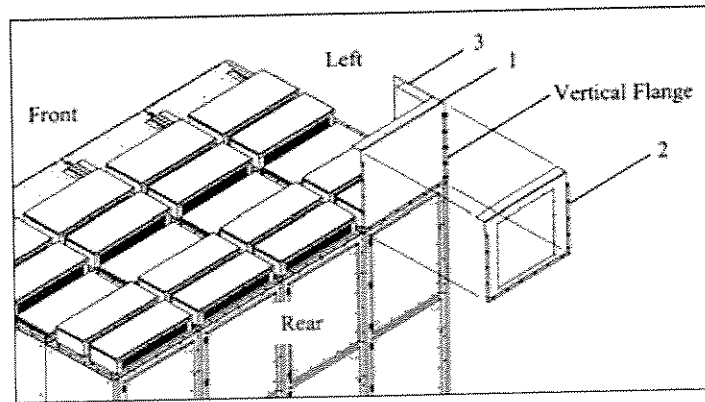

Figure 23. Installing the Left Rear Corner of the Arc Duct Plenum.
A. Construct the left rear corner of the arc duct plenum (see Figure 23).